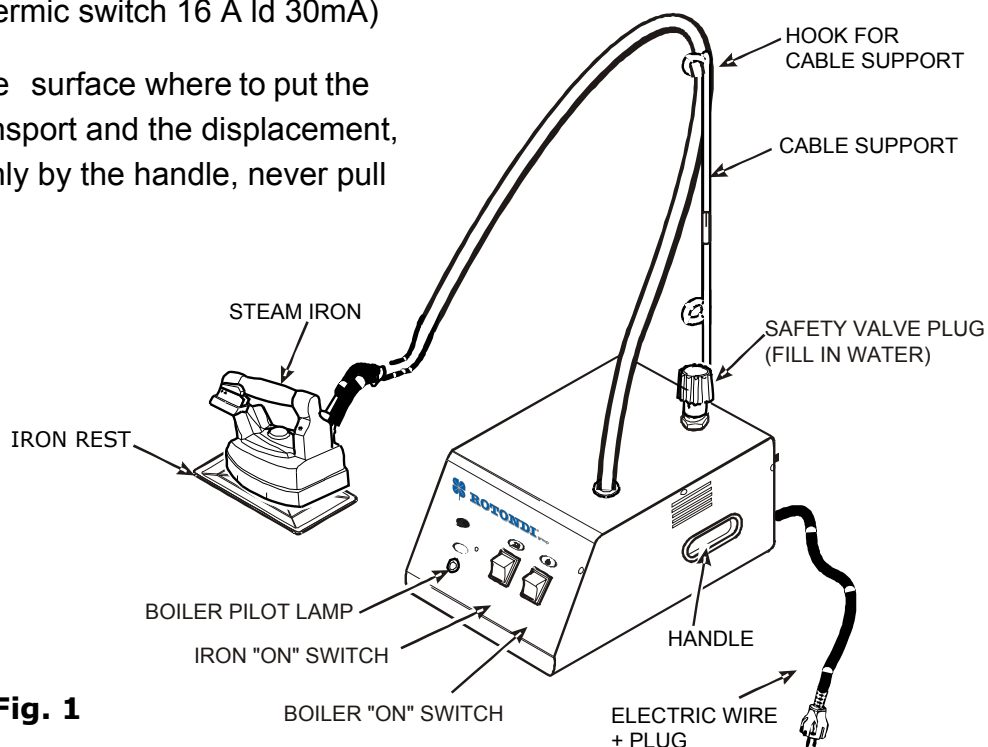
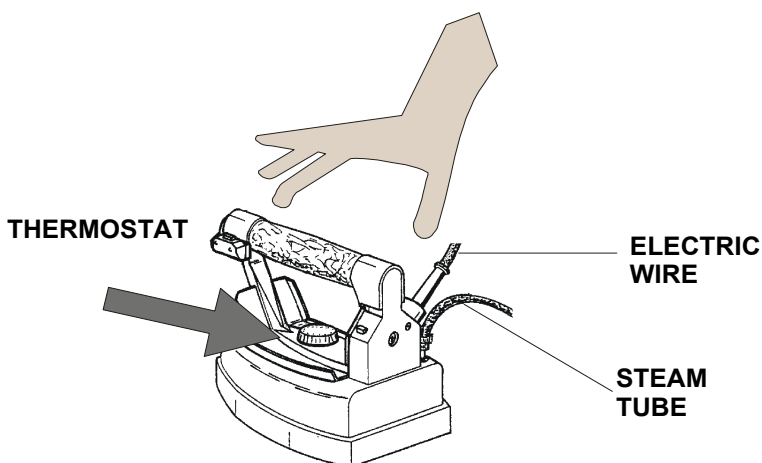
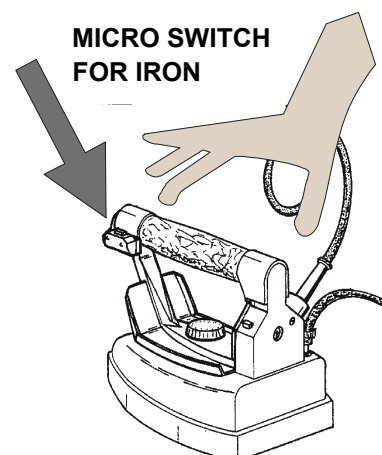

Fig. 1
Fig. 2
Fig. 3
2. Remove MINI 1 from the box, insert the cable support deep into the special support holder (fig. 1) placed on the back side of the generator.
4. Put the iron on its rubber iron rest (Fig.1).
1. Unscrew the security valve plug (fig. 1), fill the boiler with water till overflow or at pleasure (we advise you to use a funnel). Take the plug by the plastic part and screw it again: do not tighten too much or its gasket might get damaged. P.S. during the filling do not spill water onto outside of the machine; in the event this should happen, dry it immediately in order to avoid the risk of electrical discharges.
3. Switch on the boiler (fig. 1), the iron (fig. 1) and adjust the thermostat (fig. 2) on "cotton".
4. Wait for the boiler lamp to switch off. At this point seize the iron by cork handle and press red button 3 or 4 times (fig.1), so that steam comes out: this operation must be carried out in order to heat up the tubes which take steam to iron. In this way you prevent also the falling of small drops of water on garments. After this procedure has been done, the iron is ready. During ironing operation, the boiler lamp switches continuously on and off.
4. **Never replace the security valve plug (fig.1 with other types of plug. P.S. the security valve plug is set on 4,5 BAR and it has the function of a security valve.**
1. Run the iron on garments, pressing the iron microswitch (fig. 3) for steam. For a better result, set the thermostat (fig. 2) on "cotton".
3. During ironing operation, always put the iron on its rubber rest (fig. 1) and pay attention to the position of the wires: if they twine or get in touch with ironing board, they might cause short circuits.
4. For dry ironing it is possible to adjust the thermostat (fig. 2) on different positions according to the type of fabric (look at garment label). For steam ironing set the thermostat on "cotton" or "linen".
5. If you work on a non-vacuum board, some circular water spots might form because of condensed steam. To get round this problem, put a felt under the usual padding and adjust the hand-wheel for steam regulation on minimum (fig. 2).
During the ironing, if steam flow decreases considerably and then ends definitely, it means that there is no more water in the boiler. So MINI 1 has to be switched off by disconnecting the plug; rotate the valve plug (fig. 1) of 360° and wait for steam to go out completely. Unscrew the valve plug with care and wait some minutes. Then fill the boiler with water (fig.1) max 0,8 L. Screw the valve plug again, connect the plug and wait for the boiler lamp to switch off (fig. 2 C). Now the iron is ready again. **ATTENTION:** MINI 1 must always be on horizontal position.
3. Replace the security valve plug every 1500 hrs. of working or maximum 3 years (fig. 1). For carrying out this operation, the machine has to be switched off and cold.
3. steam tube and iron cable once they seem spoilt (fig. 2).